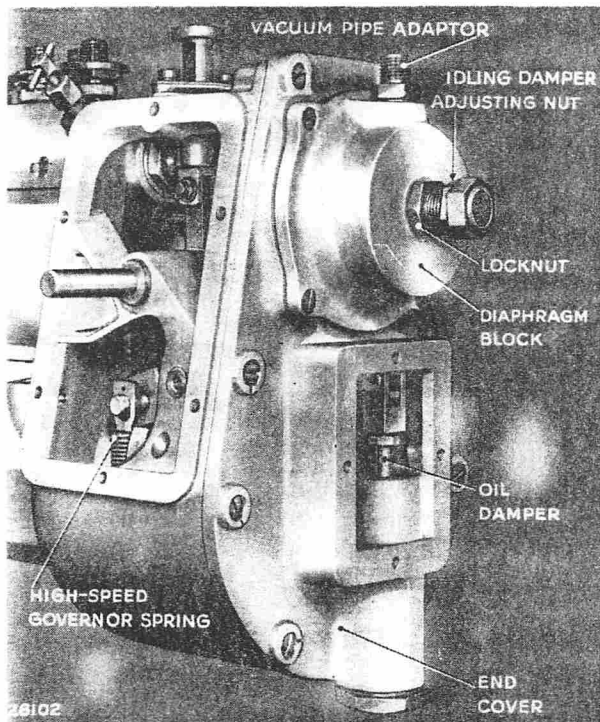

FIG. 45. GOVERNOR WITH SIDE COVER REMOVED
2. Plug the vacuum pipe adaptor (Fig. 45), with finger and release the stop lever. The control rod should not return to the open position. If it should do so, the leakage may be due to the following causes:
1. Screw out the idling damper (Fig. 45), so that it is clear of the diaphragm when the engine is idling.